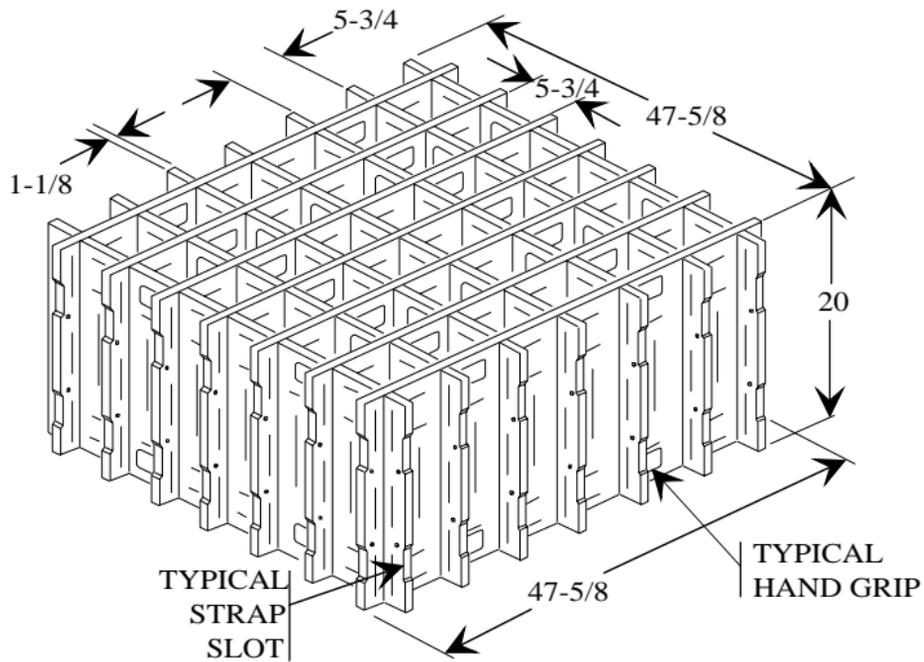
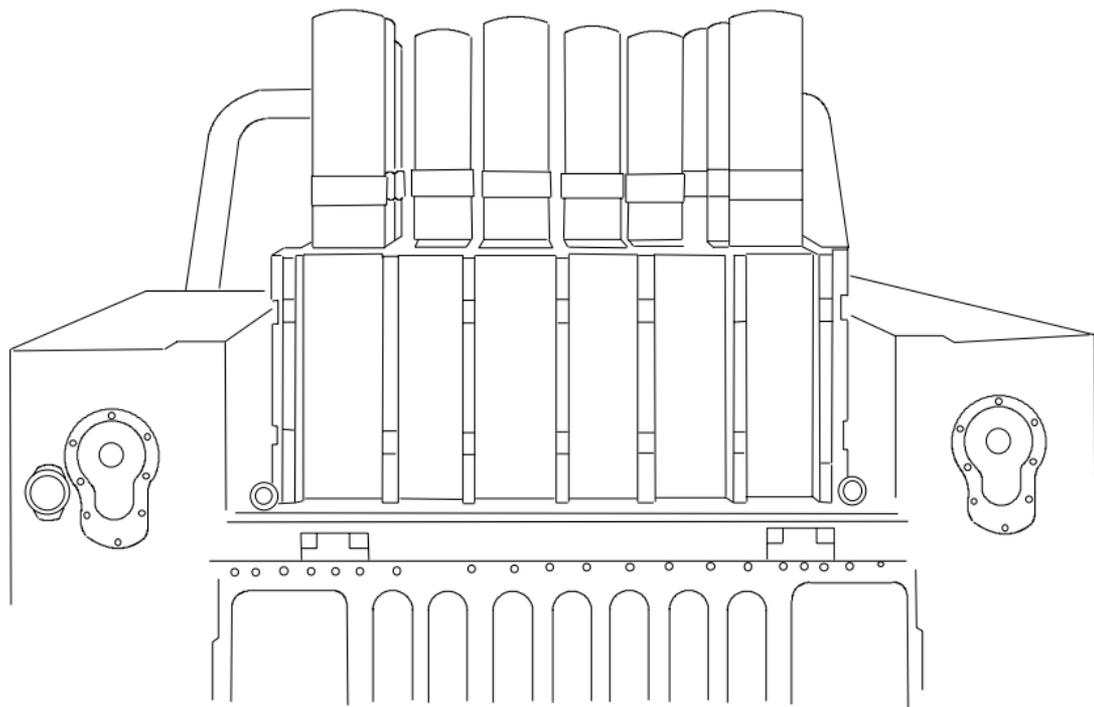
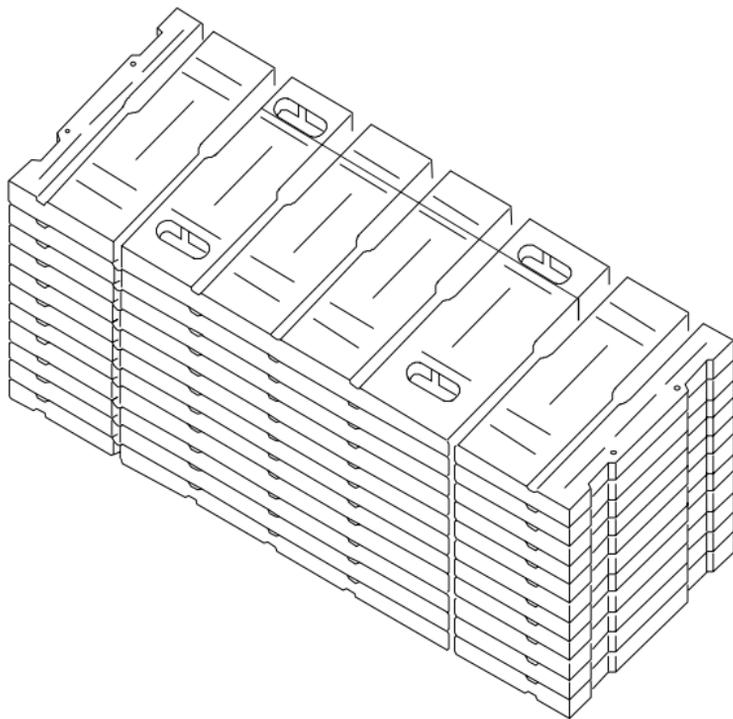

Figure 1.
Figure 2.
Figure 3.
c. Individual panels making up the 36-round configuration are shown in Figure 1. Figure 2 shows the LRRS assembled and installed in the HMMWV vehicle. Figure 3 shows the disassembled LRRS in shipping configuration.